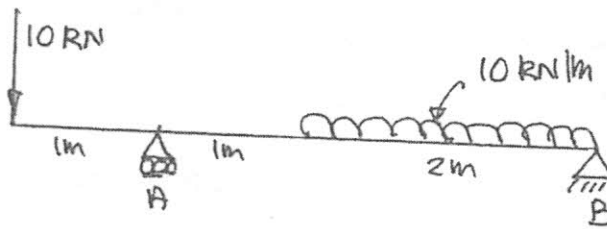

Figure 4 (a)
- 4 a) A beam AB is loaded as shown in Figure 4 (b). Draw SFD and BMD showing salient features.